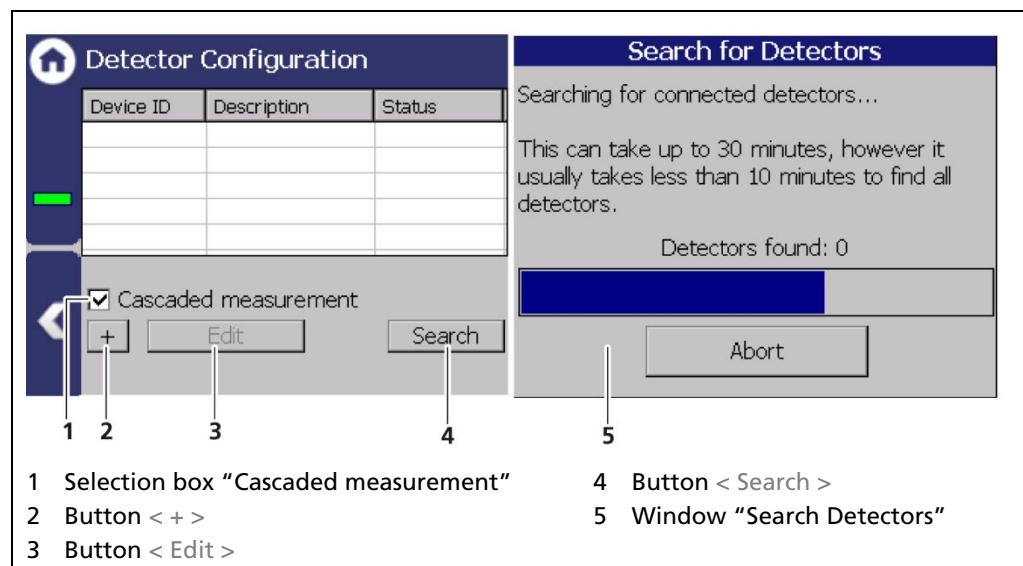

Fig. 55 Configure cascaded system
2. Activate the selection box "Cascaded measurement" (Fig. 55, item1).